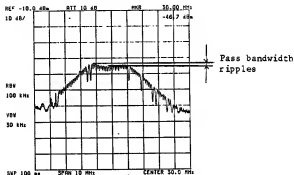

Fig. 11-54 30 MHz B.P.F. (two stages) adjustment
- (c) Press     , then change the Step FM setting with the DATA knob. Adjust C310 and C312 so the observed 30 MHz B.P.F. response (two stages) is centered around 30.00 MHz and its maximum level is attained. (See Figure 11-54.) A slight ripple within the pass bandwidth may be ignored.